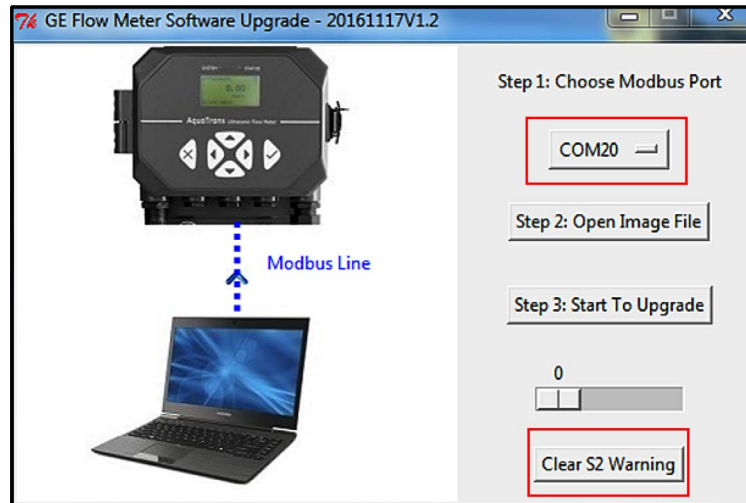

Figure 39: Clearing an S2 warning
1. In the update software, click on the com port button and select the specific port that was used for the update (see top red box in *Figure 39* below).
2. Click on the clear S2 warning button (see bottom red box in *Figure 39* below).